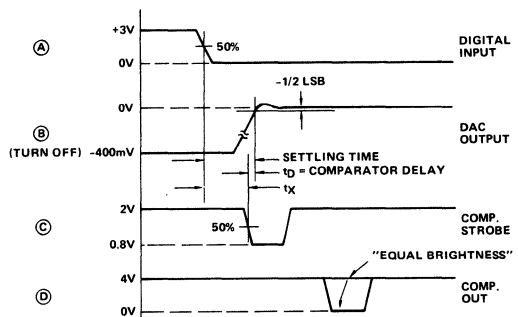

Figure 3B
As shown in Figure 3B, settling time equals t_X plus the comparator delay ($t_D = 15$ ns). To measure t_X ,
- Adjust the V_{LSB} supply for 50 percent triggering at COMP. STROBE. This is indicated by traces of equal brightness on the oscilloscope display as shown in Figure 3B. Note DVM reading.
- Switch the LSB to Pulse (P).
- Measure t_X from scope as shown in Figure 3B. Settling time equals $t_X + t_D$, i.e. $t_X + 15$ ns.